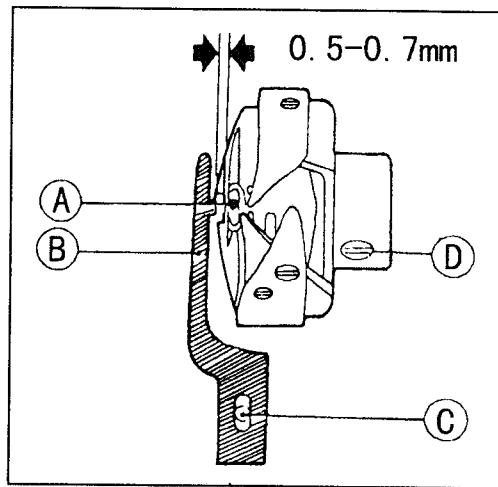

Fig. 22
17. REPLACE ROTATING HOOK (Fig.22)